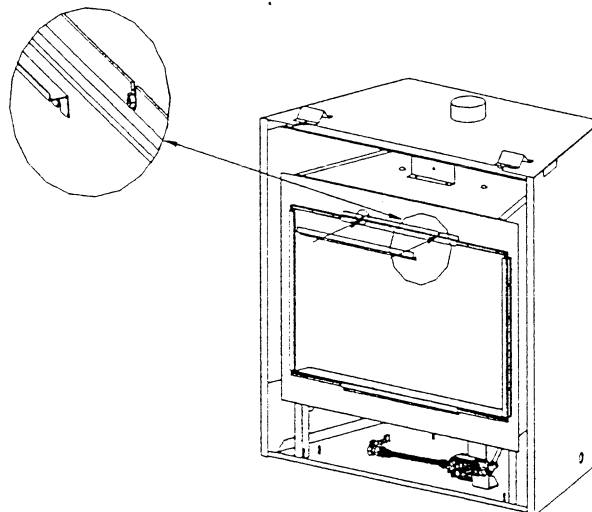

Figure 13
- 6) Install the decorative glass trim. See figure 13.
- a) Place frame clip over the glass clip as shown. Place trim over the outer perimeter of the glass, catching the top trim clip and secure to outer perimeter of the glass with magnets (pre-installed at the factory). See figure 13.